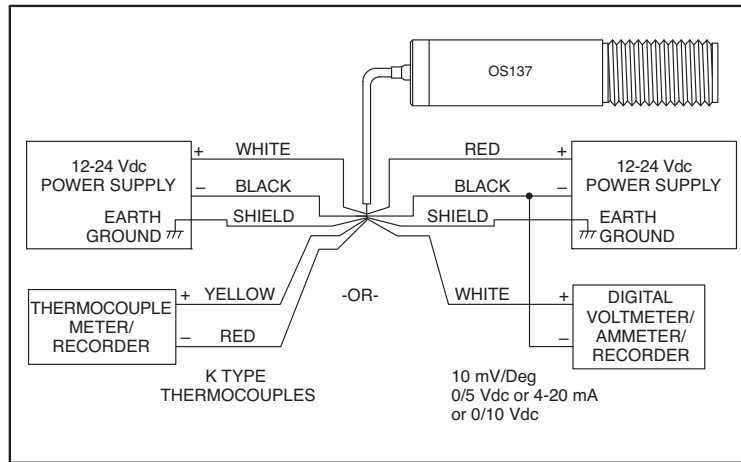
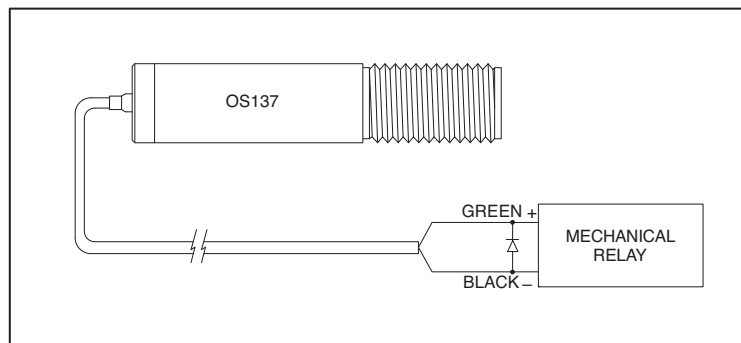

Figure 2-1. General Wiring Diagram
Figure 2-2. Alarm Output Wiring Diagram
The shielded cable provides the power and output connections. Fig 2-1 shows the wiring diagram for different analog outputs. Fig. 2-2 shows alarm output connections.
- ✓ The power and output connections are made (Fig 2-1).
- Connect the alarm output as shown in Fig. 2-2.